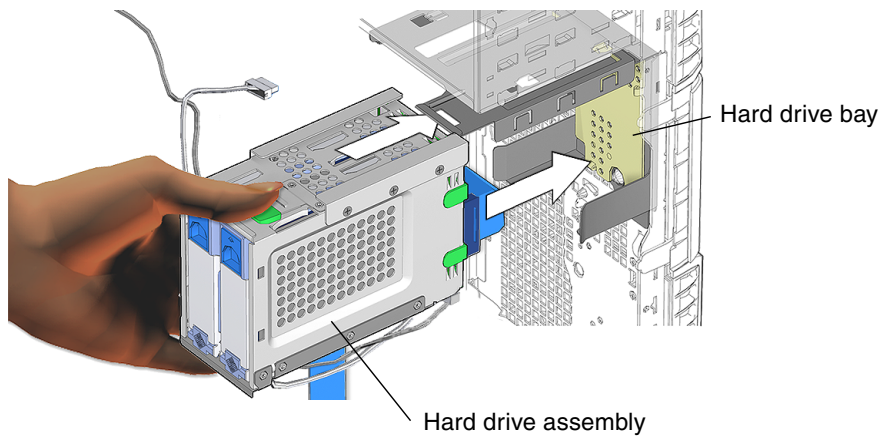

FIGURE 15-2 Installing the Hard Drive Assembly Into the Hard Drive Bay
6. Install the hard drive assembly into the hard drive bay (FIGURE 15-2).